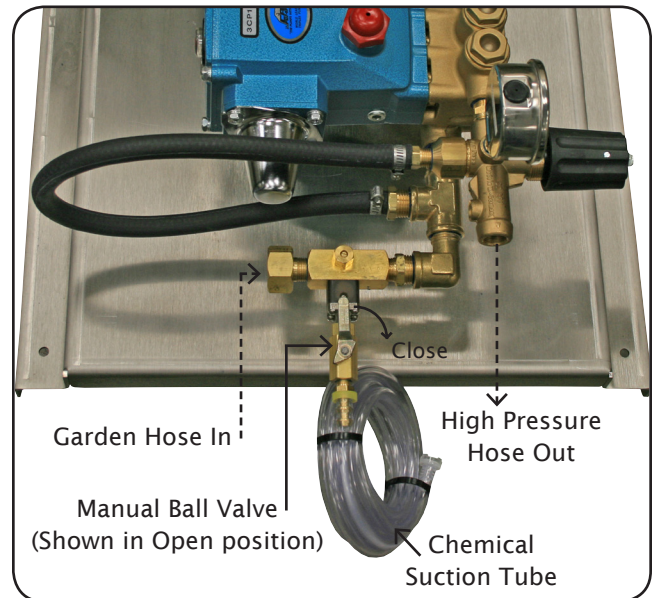

figure 2
3. Run a 3/4" city pressure hose line to female garden hose connector on inlet of pressure washer. If running hot water, temperature should be no more than 130°. (Fig. 2)
4. Connect one end of the high pressure hose to the outlet of the pump & install trigger gun to opposite end. (Fig. 2)
5. Set chemical container next to pressure washer & insert chemical suction tube with strainer into the container. (Fig. 2)
6. Turn the manual ball valve on chemical suction line off for initial testing. (Fig. 2)